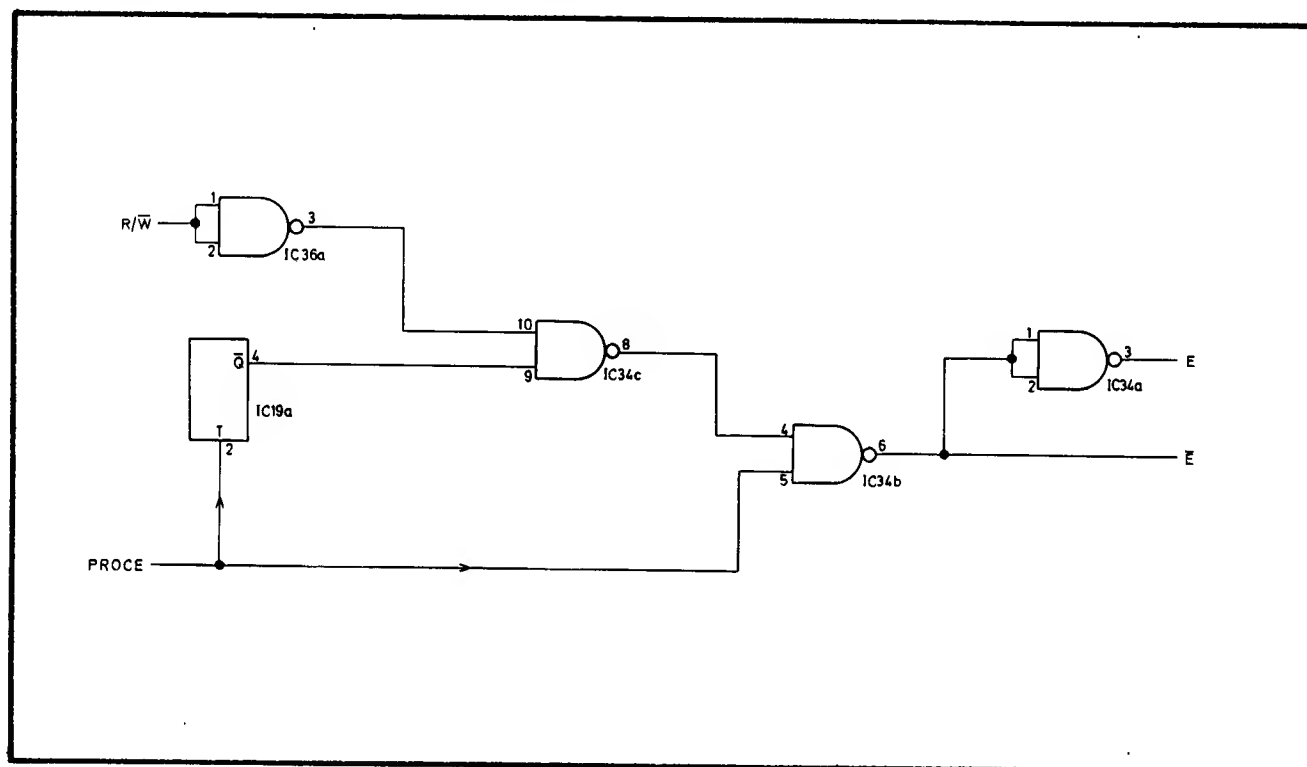

Fig 6.8 Timing Modification Circuit
6.5.4.4.5 The E and \bar{E} clocks are derived from the $PROCE$ clock in the circuit containing IC19a, IC34a, b and c, and IC36a, shown in Fig. 6.8. When the microprocessor is reading data from the bus, E and \bar{E} are a copy and the inverse of $PROCE$. During microprocessor write operations, however, E and \bar{E} are modified to increase the time during which valid data may be read from the bus.